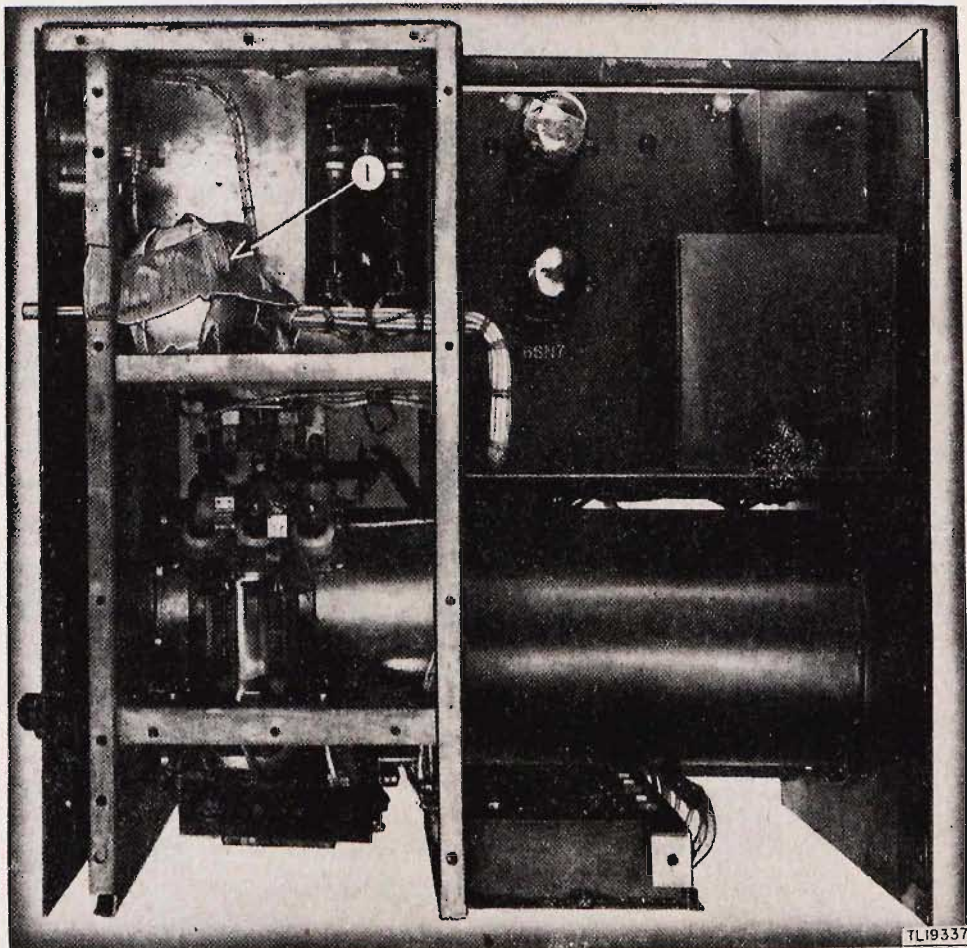

Figure 68. Radio Transmitter T-30/TRC-8 (XC-3).
- (2) Mask meter switch (item 1, fig. 68).